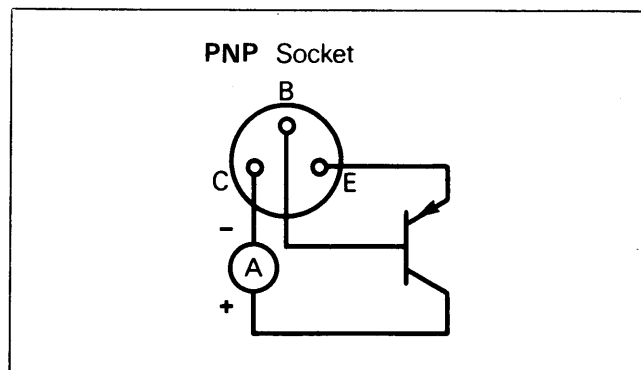

Fig. 13. Field calibration, f_r circuit.
- (e) Remove NPN Transistor and insert PNP Transistor into front panel socket labeled PNP (15) with current meter in series with the collector lead (See Fig. 13). Current measured should be between 9 and 11 milliamperes for proper operation.